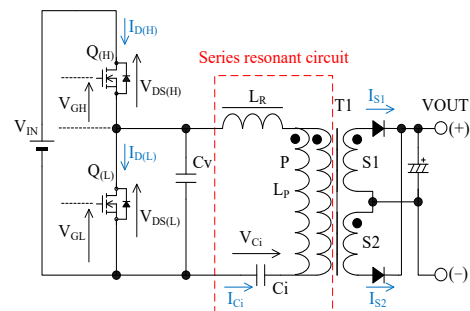
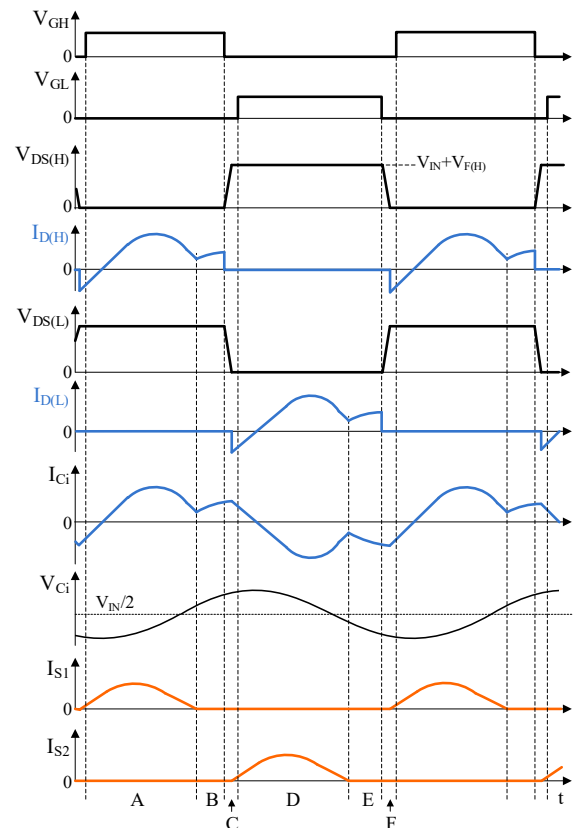

Figure 9-3. Current Resonant Power Supply Circuit
Figure 9-4. The Basic Operation Waveforms of Current Resonant Power Supply
Figure 9-3 shows the circuit of a current resonant power supply. The basic configuration of the current resonant power supply is a half-bridge converter. The switching devices, $Q_{(H)}$ and $Q_{(L)}$, are connected in series with V_{IN} . The series resonant circuit and the voltage resonant capacitor, C_v , are connected in parallel with $Q_{(L)}$. The series resonant circuit consists of the following components: the resonant inductor, L_R ; the primary winding, P , of a transformer, $T1$; and the current resonant capacitor, C_i . The coupling between the primary and secondary windings of $T1$ is designed to be poor so that the leakage inductance increases. This leakage inductance is used for L_R . This results in a down sized of the series resonant circuit. The dotted mark with $T1$ describes the winding polarity. The secondary windings, $S1$ and $S2$, are connected so that the polarities are set to the same direction as shown in Figure 9-3. In addition, the winding numbers of each other should be equal. From Equation (1), the impedance of a current resonant power supply is calculated by Equation (5). From Equation (4), the resonant frequency, f_0 , is calculated by Equation (6).
Figure 9-4 describes the basic operation waveform of current resonant power supply (see Figure 9-3 for the symbols in Figure 9-4). For the description of current resonant waveforms in normal operation, the operation is separated into a period A to F. In the following description: